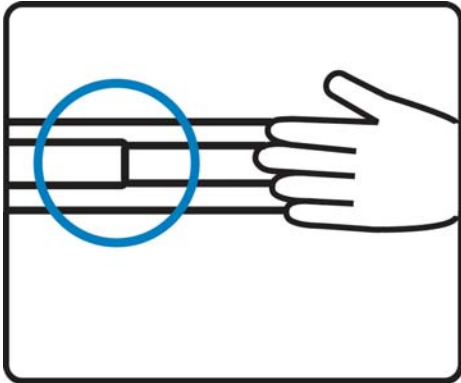

Figure 3
- Push the LCD keyboard drawer into the rack. (shown in **Figure 3**).